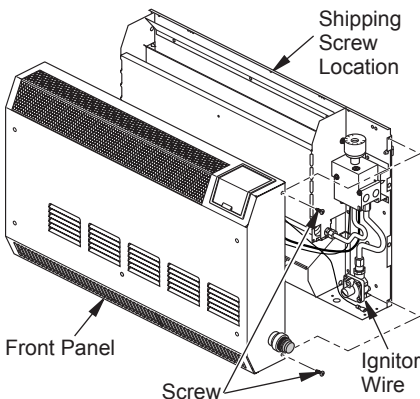

Figure 4 - Removing Front Panel Of Heater
1. Remove and discard shipping screw from back panel of heater (see Figure 4).
4. For both ignitors, install ignitor wire only when replacing front panel of heater after connecting to gas supply and checking gas connections (see pages 11 through 13). With bottom of front panel only 2" to 3" (5 to 7.6 cm) away from back panel, reach into lower right corner of heater to connect ignitor wire to ignitor terminal (see Figure 4, page 8).